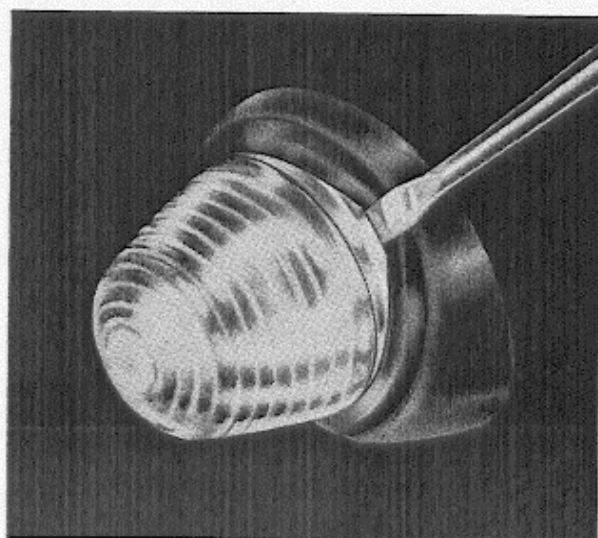

Fig. 76. Removing the glass.
2. Remove the glass in the same way, see Fig. 76.